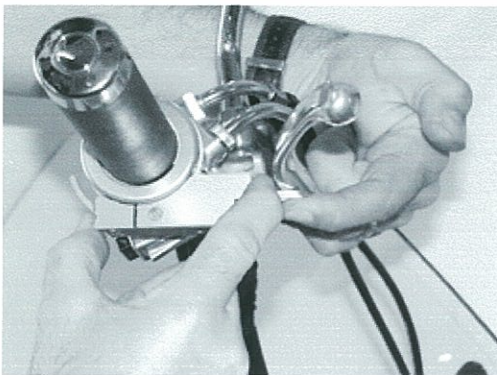

Figure 10
- 2.1 Rotate the Clamp(3) until the Cam Support(9) is positioned directly under the bottom of the motorcycle brake lever. Carefully squeeze the clamp together as shown (Figure 10), until it snaps into the engaged position. **Do not allow the Cam Support(9) to push up against the brake lever or it could bend the Spring Plate(13). Make sure the catch pin(14) is fully engaged into the hole of the spring plate(13) (See Diagram).**